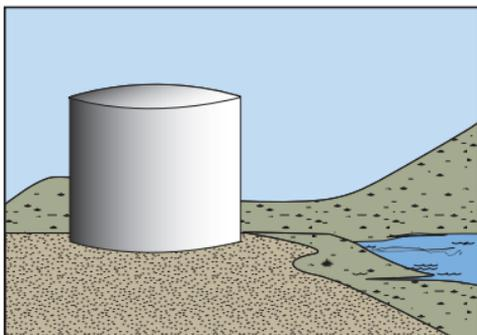

Figure LST-2. Rigid tank-of-opportunity used for intermediate or final storage of recovered fluids.
**Rigid Tanks** – Rigid tanks are constructed of steel, aluminum, or plastic and may include: tanks-of-opportunity located near the response site or tanks delivered to the transfer site. Rigid tanks are the preferred means of storage, especially if the storage is for a long period (Figure LST-2).